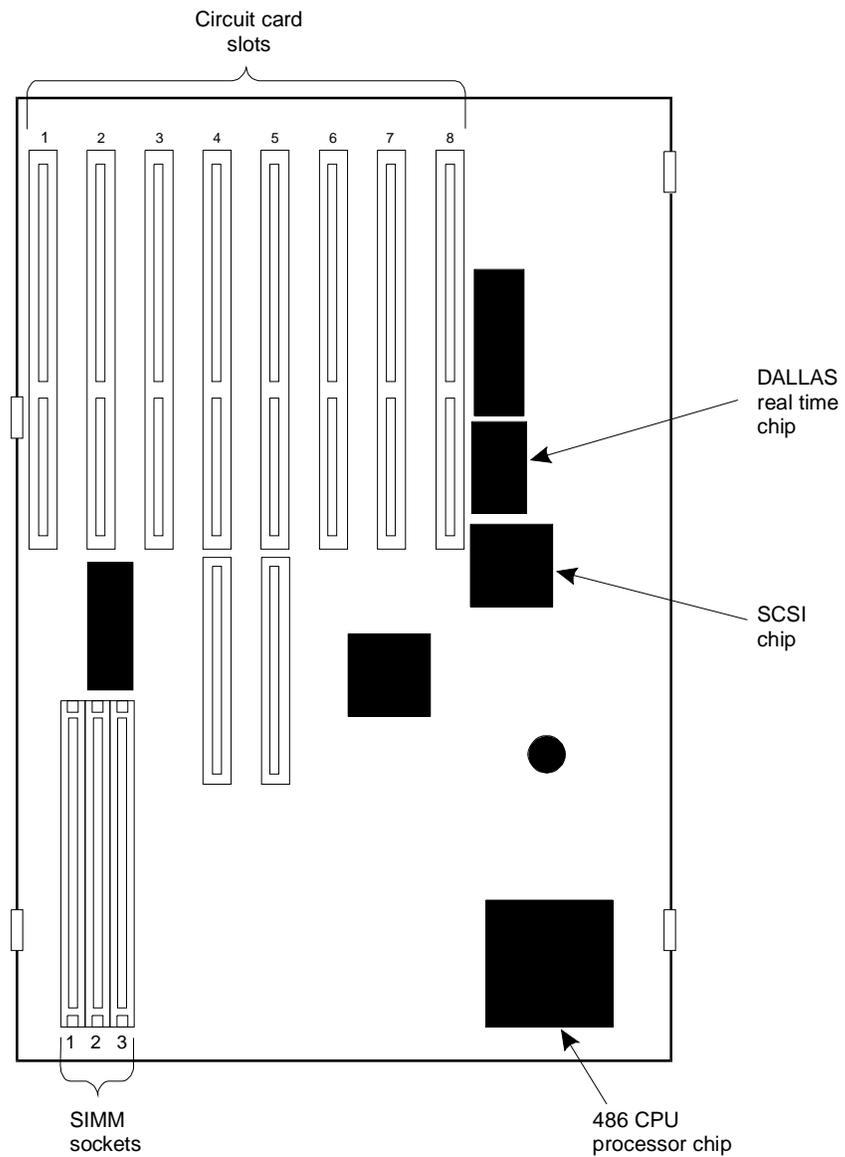

Figure 10-11. SIMM Socket Location on System Board
The SIMM sockets are located in the left front corner of the system board, parallel but opposite to the peripheral bay. The 16 MB SIMM is located in the first SIMM socket, the left most socket from the peripheral bay. See Figure 10-11.
7. Locate the SIMM sockets in the left front area of the system board. See Figure 10-11.